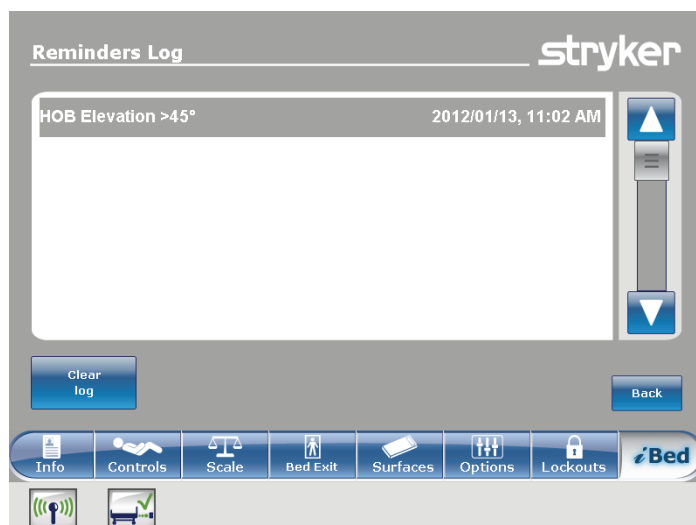

Figure 91 – Reminders Log
**View reminders log:** View a list of reminders and the values for the date, time, and reminder that was logged (Figure 91).
**Have done / Will do the necessary action:** Tap to acknowledge that the protocol reminder action has been performed on the patient. The reminder alarm is disarmed and the reminder is logged (Figure 91).
**Did not / cannot do the necessary action:** Tap to explain why the protocol reminder action cannot be performed on the patient. The reminder is not disarmed and the reminder is logged (Figure 91).
The **Reminders Log** screen lists reminders and the values for the date, time, and reminder that was logged (Figure 91).
To clear the highlighted reminder from the reminders log, tap **Clear log** (Figure 91).